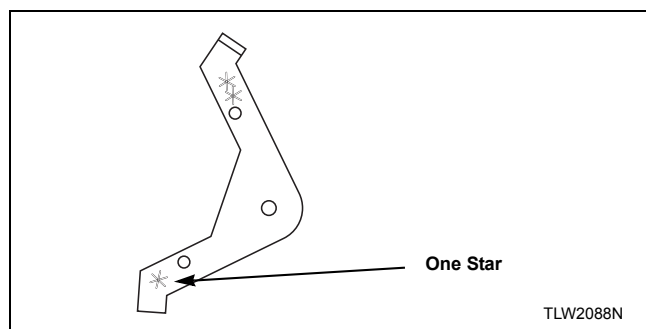

Figure 13
2. Install extension lever with arm that has one star facing down. Refer to *Figure 13*.